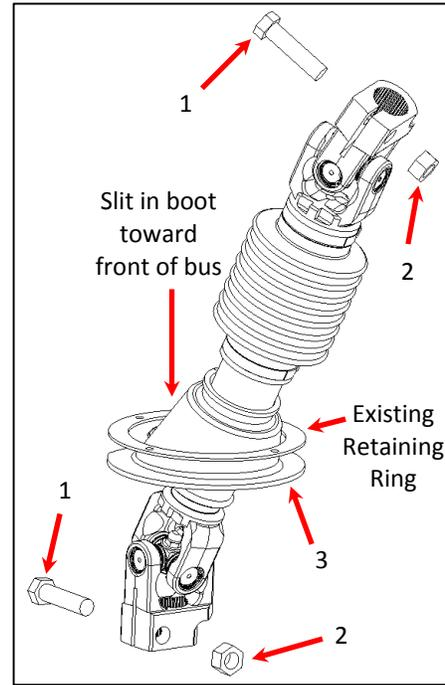

Fig. 4
8. Replace floor boot seal on intermediate steering shaft and re-install intermediate shaft using new fasteners. (See Fig. 4)